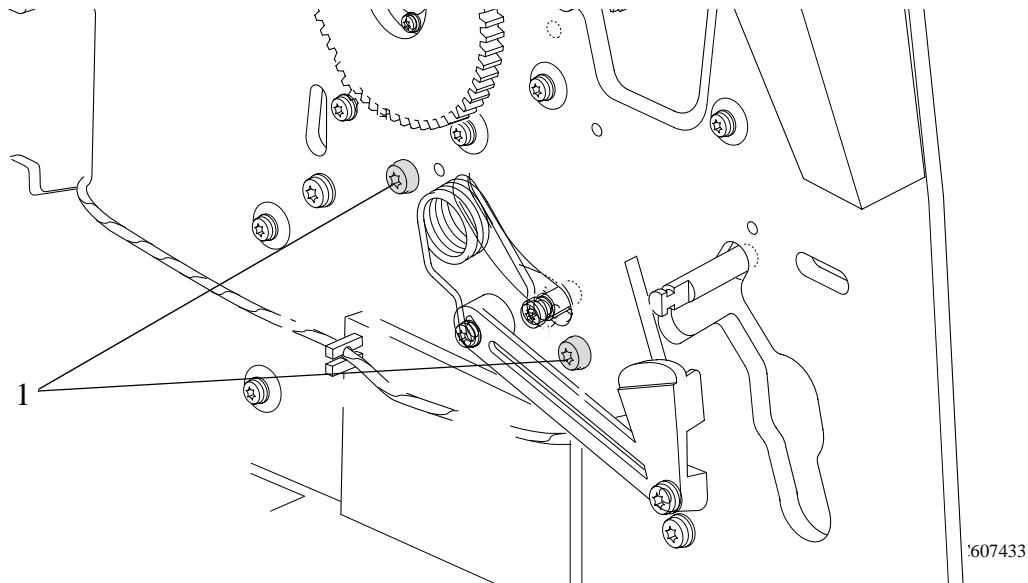
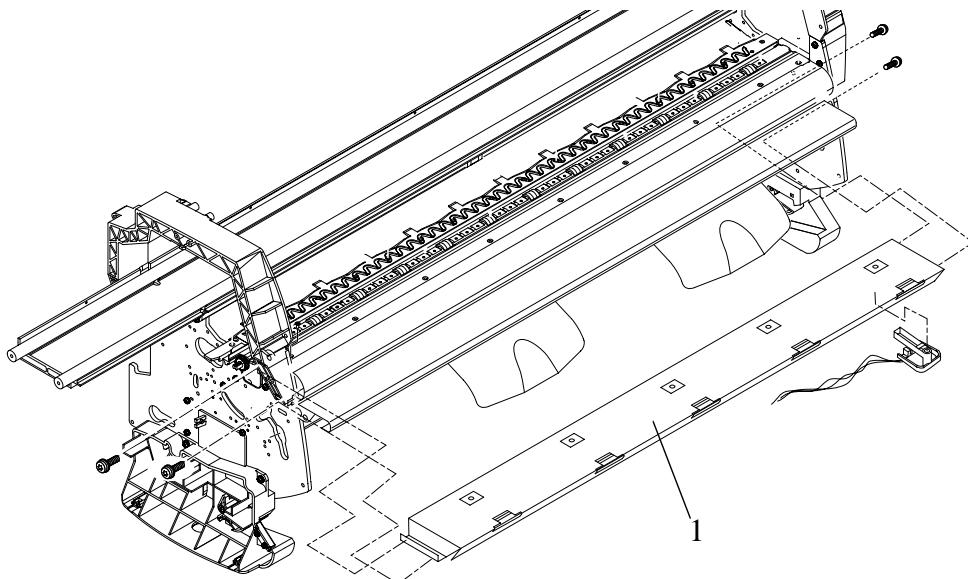

Figure 78: Left Hand Center Guide Screws
Figure 80: Center Guide
Refer to Figure 78 to Figure 80.
3. Remove the two T-15 screws from the left hand side plate securing the left side of the center guide (refer to Figure 78).
5. Remove the center guide (item 1) (refer to Figure 80):